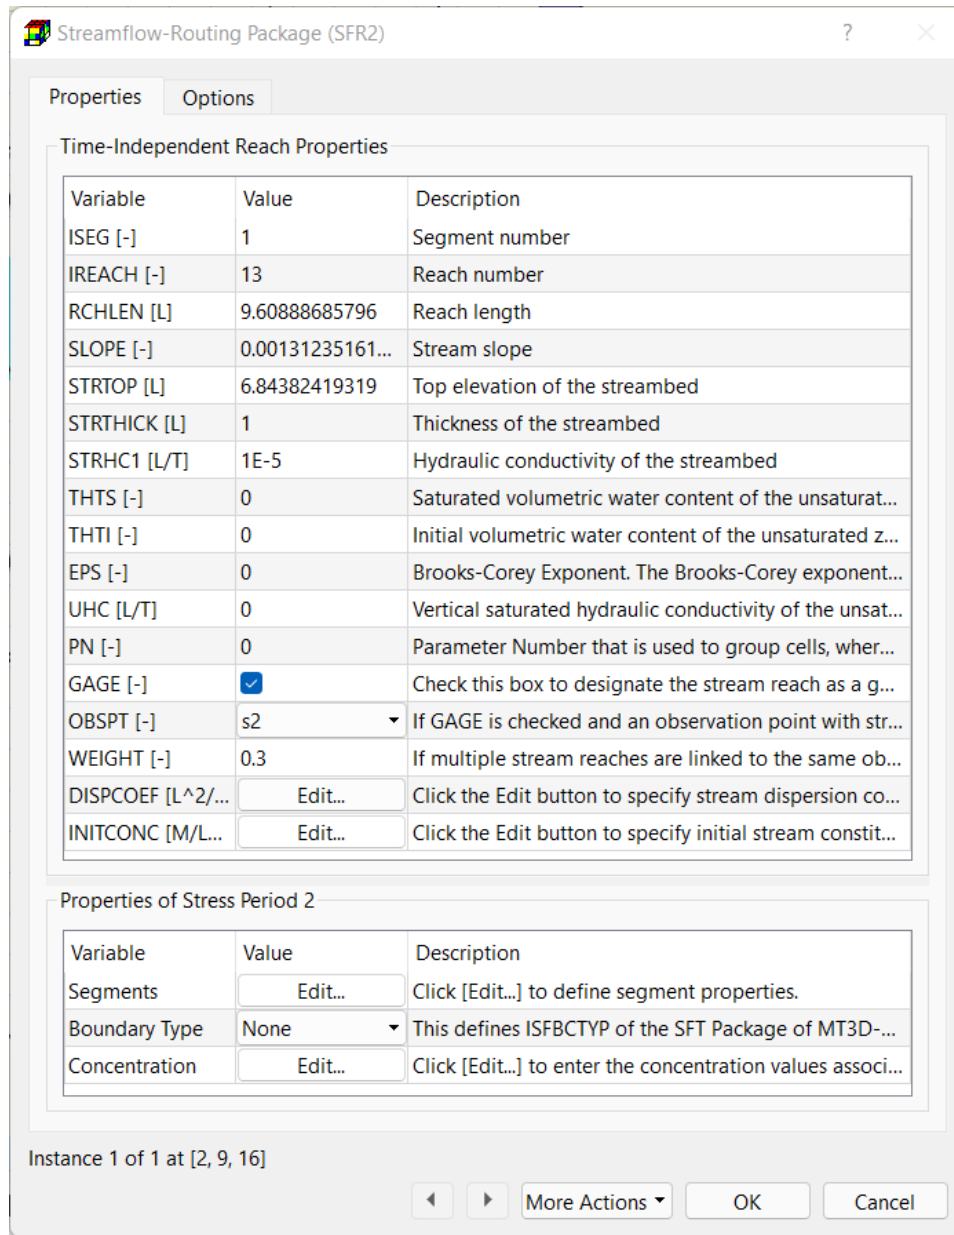

Figure 92. The Streamflow-Routing Package (SFR2) dialog box for specifying cell properties
- 2. **Cell-by-cell input method:** Figure 92 shows the Properties tab of the Streamflow-Routing Package (SFR2) dialog box. The required data are organized in two groups as described below.